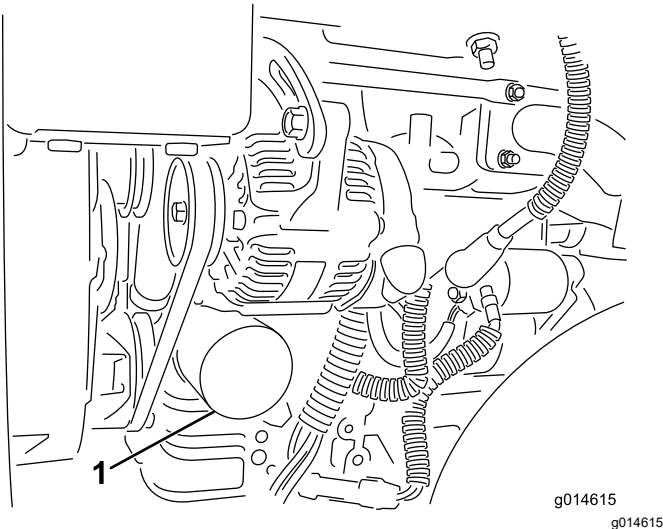

Figure 35
2. Remove the oil filter (Figure 35). Apply a light coat of clean oil to the new filter gasket.